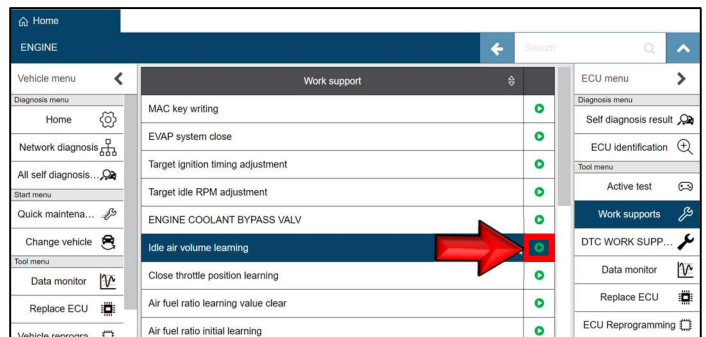

Figure 27
28. Locate and select the "Play" button for **Idle Air Volume Learning**. (Figure 27)